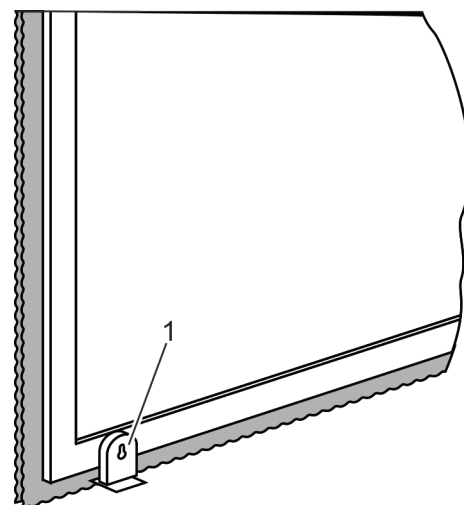

Fig. 30 Floor locking device
4. Unlocking a wing with a floor locking device (Fig. 30/1). Make sure that the lock cylinder has been unlocked with two full revolutions.